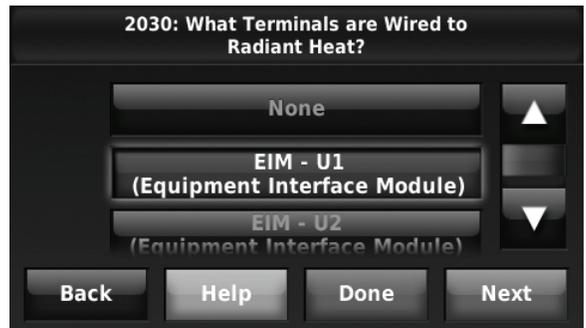

Fig. 204.
3. Select the universal terminals wired to the Geothermal Radiant Heat. See Fig. 204.